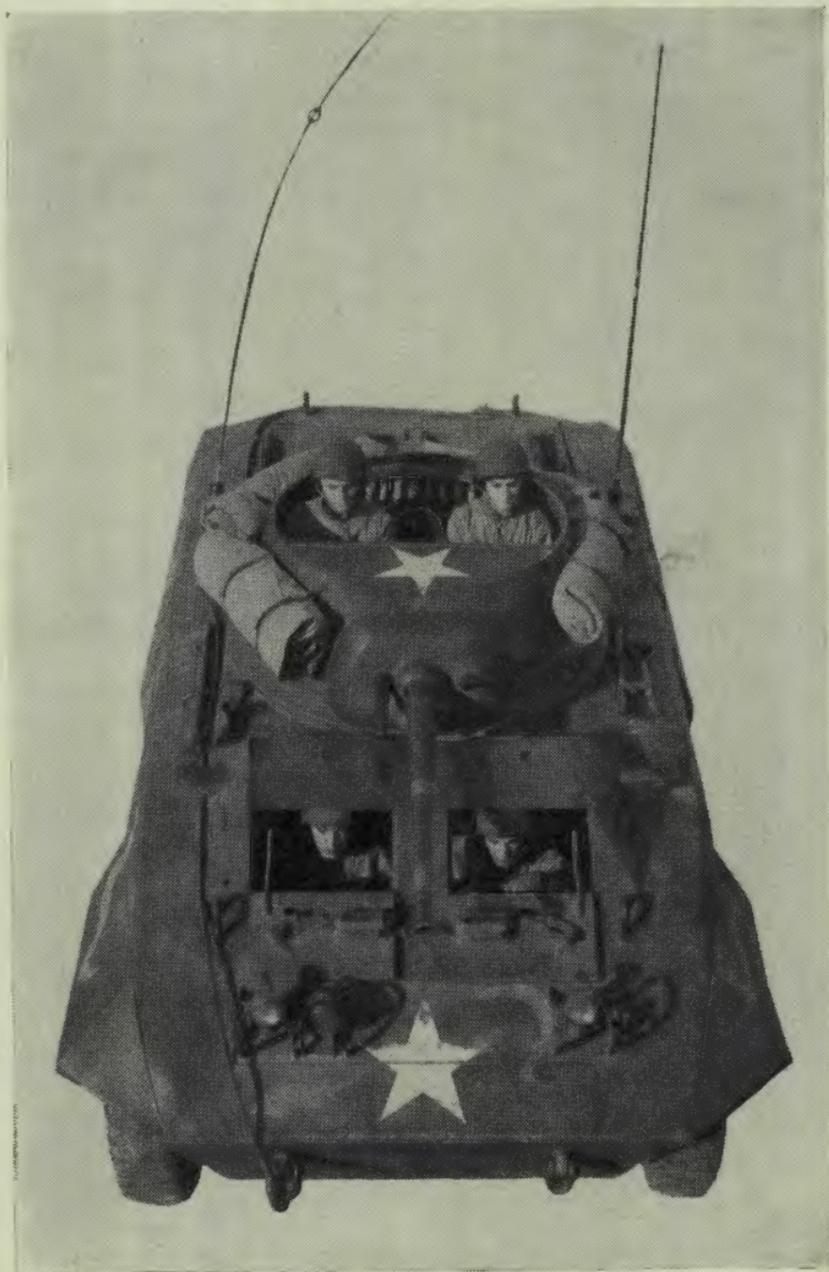

FIGURE 4.—Crew at MOUNTED POSTS.
b. Mounted posts.—The crew forms mounted as follows (see fig. 4):
- (1) *Car commander.*—On the right side of the turret, standing on the floor, or sitting or standing on the turret seat.
- (2) *Radio operator.*—In the assistant driver's seat.
- (3) *Driver.*—In the driver's seat.
- (4) *Gunner.*—On the left side of the turret, standing on the floor, or sitting or standing on the turret seat.